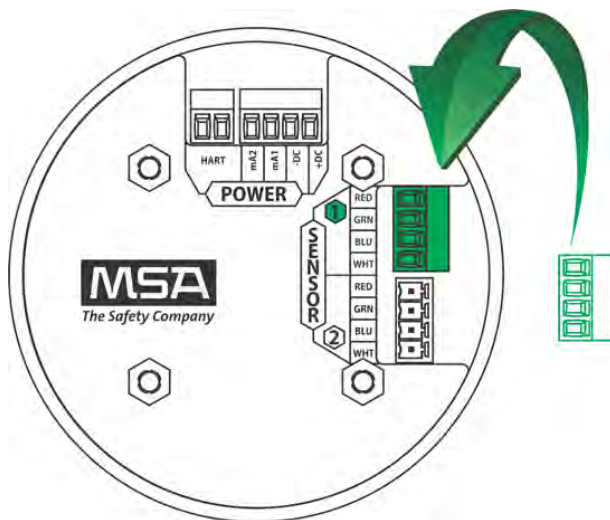

Fig. 32 Connecting a Sensor to the Board
- (9) Attach the connector to the board stack, making sure the appropriate wires are in the correct terminals.
- (10) Connect HART wires (for optional local HART port).
- (11) Connect an XCell or XIR PLUS sensor using the green connector. Sensor wires are already connected as shown on the cover plate (see Fig. 32):